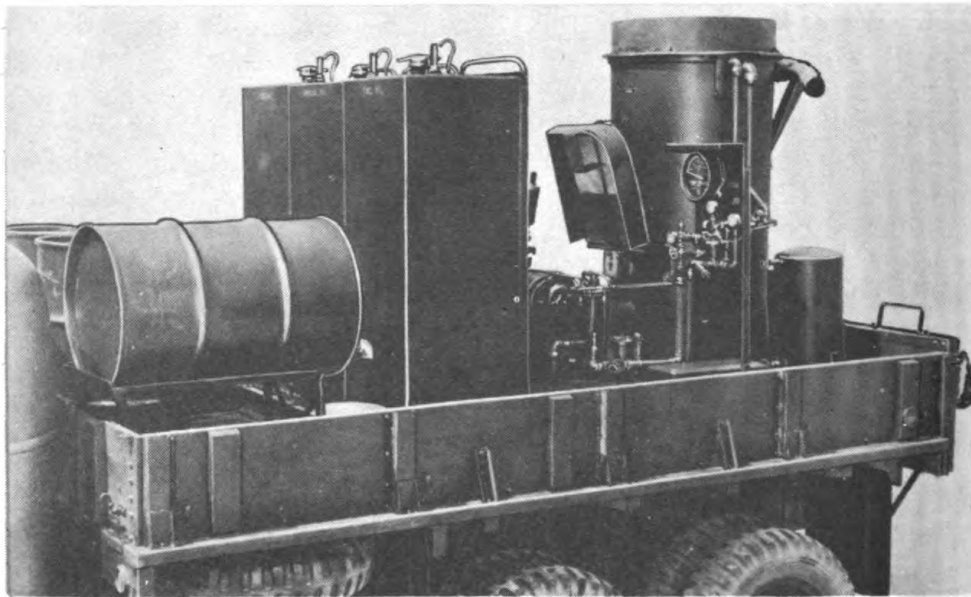

Fig 10. Mechanical smoke generator M1 (100 gallon).
(2) Suction and discharge. So long as fog valve lever is in OFF position, only water flows through fog oil valve. When lever is placed in ON position, fog oil, drawn through fog oil suction hose, is also admitted and flows through the valve to the pump together with the water. The pump then mixes the two liquids and forces them through inlet line to coil assembly.
a. Types. The M2 generator is one of two mechanical smoke generators used by the U.S. Army, the other unit being designated as generator, smoke, mechanical, M1 (100 gallon) (fig 10). Operation and maintenance instructions for the M1 generator are given in TM 3-380.
in figure 10 with pictures of the M2. Completely fueled, the M1 weighs 5,400 pounds. When the tanks of the M2 are filled, the M2 generator weighs only 266 pounds, but a 500-pound fog oil barrel must be carried with it to provide for 1 hour of operation. All fuels necessary for 1-hour operation of the M1 are carried in supply tanks mounted on the generator itself. Functionally, the most marked differences have to do with the amount of fog oil each unit consumes, relative effectiveness of smoke produced, type of liquid used in burner, and the number of gages and operating controls. These differences follow: